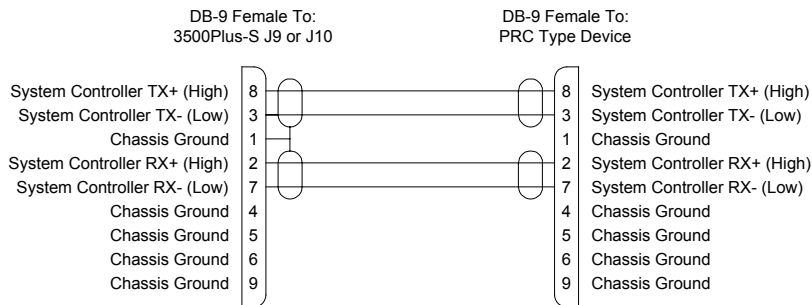

Figure 29. 3500Plus-D RS-422 Serial Cable
- COM 3/PRC is the communications interface to a PRC type routing switcher system and is connected to a routing switcher with an AT Serial Modem cable (Part No. 81-9028-0400-0). If necessary, a cable up to 4000 feet in length may be fabricated in the field as shown in Figure 29.